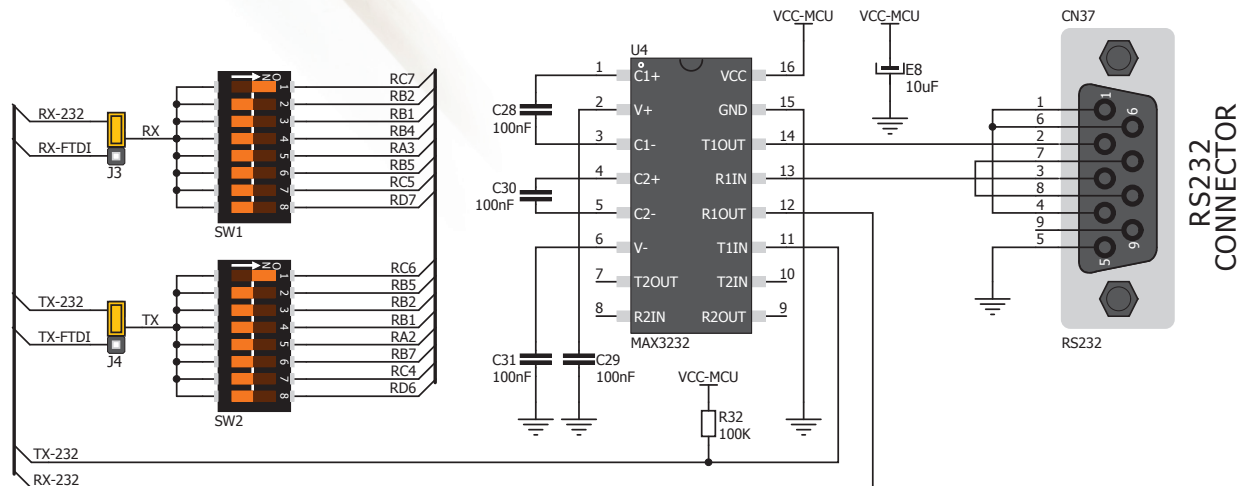

Figure 18: RS-232 connection schematic
**RS-232 serial communication** is performed through a 9-pin SUB-D connector and the microcontroller UART module. In order to enable this communication, it is necessary to establish a connection between **RX** and **TX** lines on SUB-D connector and the same pins on the target microcontroller using DIP switches. Since RS-232 communication voltage levels are different than microcontroller logic levels, it is necessary to use a RS-232 Transceiver circuit, such as **MAX3232** as shown on **Figure 18**.